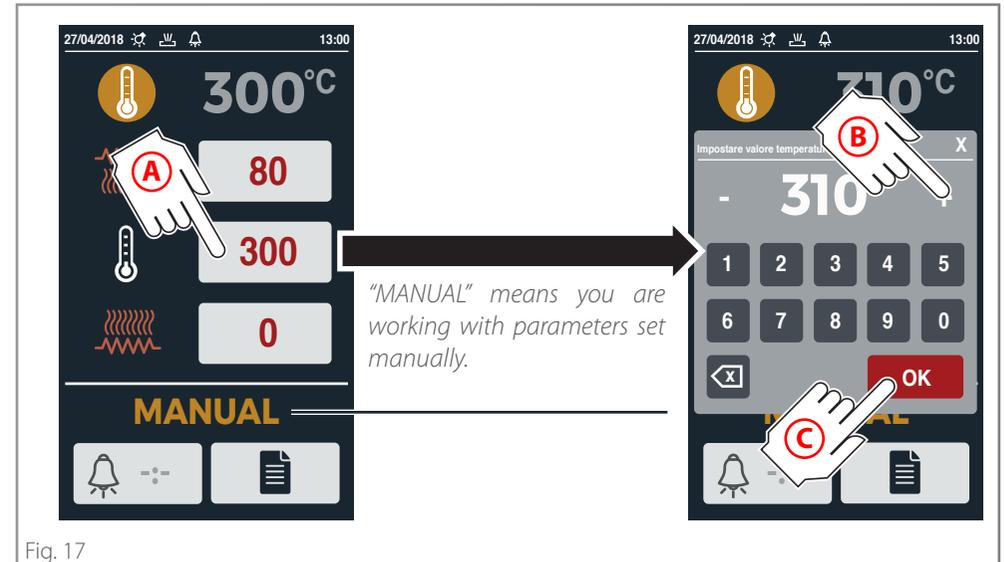

Fig. 17
- ▶ **Fig. 17** entering the **manually** the **preheating temperature** and the desired **top and bottom power** (see table on page 8, cooking information).
Entering the recipe parameters manually ▶ Fig. 17